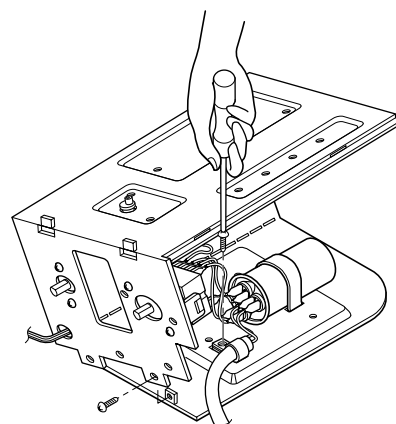

Figure 28
6. Pull the power cord. (See Fig. 28)